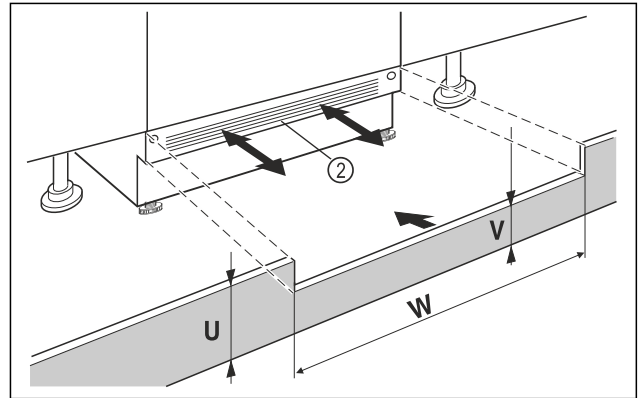

Fig. 64 Example illustration
- Put on the appliance base cover Fig. 64 (2) but do not fix it yet.
- If the base cover Fig. 64 (2) is visible, pull it so far forward that the front edge of the ventilation grille and the unit base cover form one level.
- If the base cover is concealed Fig. 64 (2), push it all the way back.
- Ensure that the ventilation slots are completely free: If necessary, cut the height of the unit base cover Fig. 64 (U) to size!
- Adjust the bar height Fig. 64 (V) under the appliance base cover Fig. 64 (2) along the recess width Fig. 64 (W).